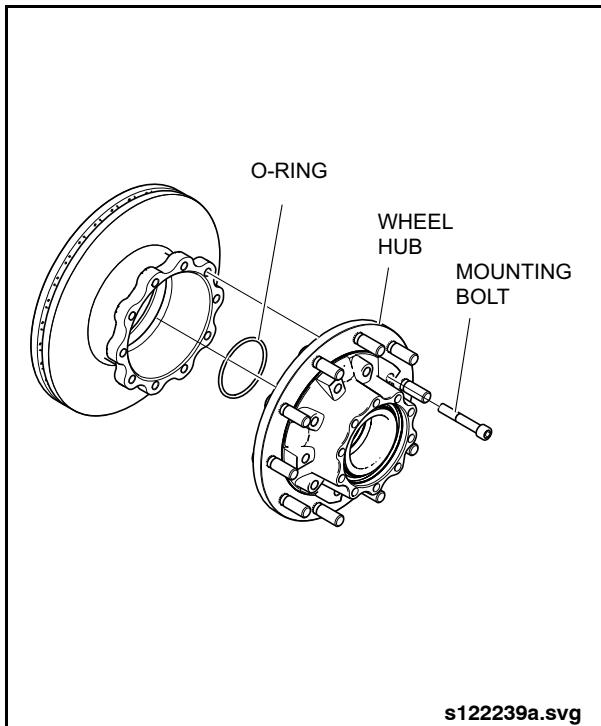

Fig. 2-142: Separating Wheel Hub from Brake Disc
8. Remove the wheel hub mounting bolts. See "Fig. 2-142: Separating Wheel Hub from Brake Disc" on page 119.